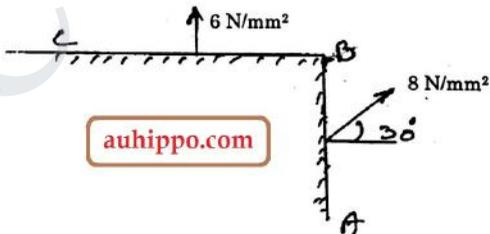

Fig. Q. 16(a)
16. (a) The intensity of resultant stress on a plane AB (Fig.Q.16(a)) at apoint in a materials under stress is 8 N/mm^2 and it is inclined at 30° to the normal to that plane. The normal component of stress on another plane BC at right angles to plane AB is 6 N/mm^2 . Determine the following :
- (iii) The maximum shear stresses. (15)